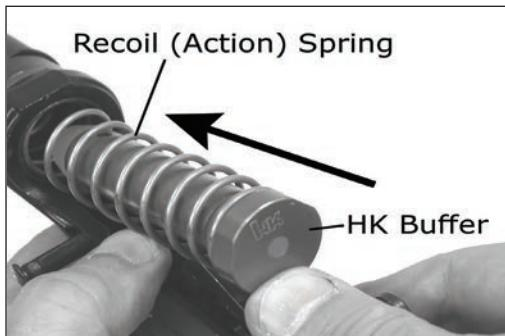

Fig. 30 – Installing the buffer spring
c. Ensure that the hammer is in the down (cocked) position before attempting to install the buffer spring. Mount the buffer spring onto the buffer and insert the buffer and spring into the receiver extension. Push back on the buffer far enough until the buffer is retained by the spring loaded buffer detent (Fig. 30).